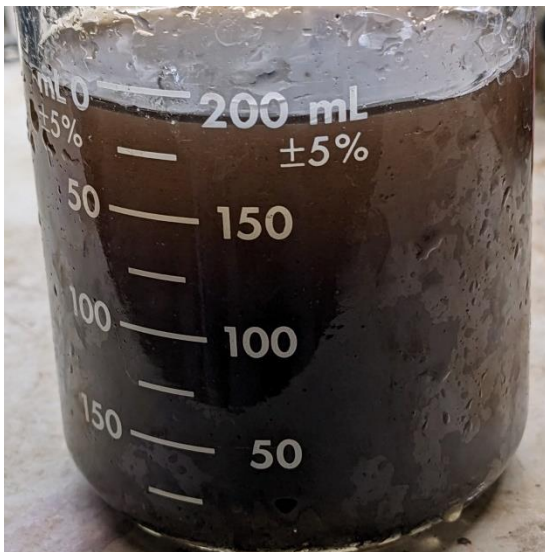

Figure 1 – Sample of material vacuumed off the bottom of the south clearwell.
- We felt good about our progress today and think we have found plausible root cause for the elevated turbidity at the distributions system point of entry. It appears that a relatively thick layer of material at the bottom of the clearwell is causing the turbidity. The material is a mix of small pebbles, small black particles, and a dark brown flock. The flock is very light, is easily stirred up, and settles slowly. It seems like this light flock might be agitated in the clearwell by the influent and pump starts causing the turbidity increase in the clearwell. Images of the material collected from the bottom of the clearwell are shown in Figure 1 and Figure 2.